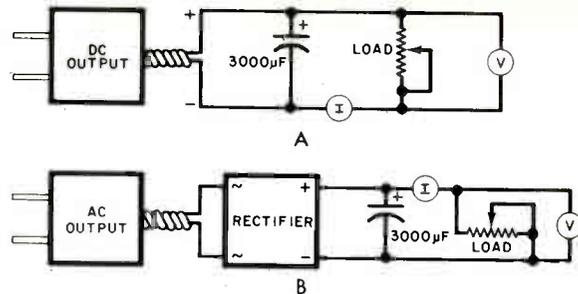

Fig. 1. The difference between the test circuit for an ac and dc adapter is the rectifier required by the ac version.
**Testing.** The setup used for testing ac and dc output adapters is shown in Fig. 1. The only practical difference between the two types is that a rectifier is used with the ac device.